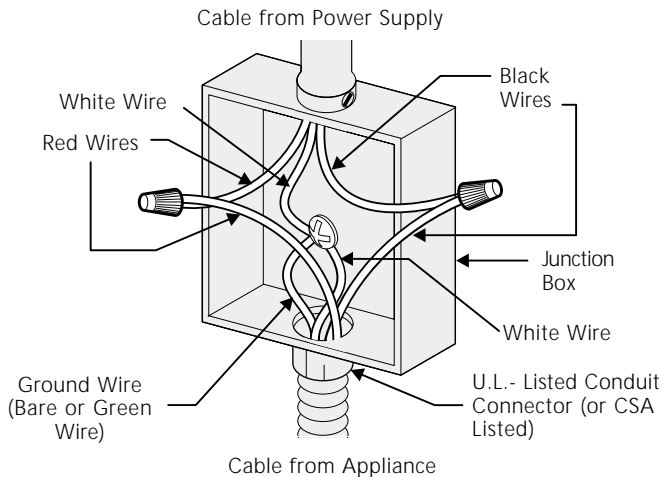

Figure 2 – GROUNDED NEUTRAL
1. Where local codes permit connecting the cabinet-grounding conductor to the neutral (white) junction box wire (see Figure 2)